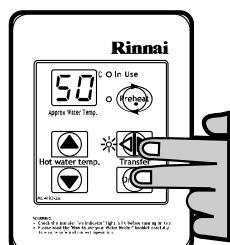

Fig. 7
STEP 1: For the controller in the KITCHEN ONLY, press and hold the ‘Transfer’ and ‘On/Off’ buttons simultaneously (Fig. 7) until a ‘beep’ is heard (approximately 5 seconds).